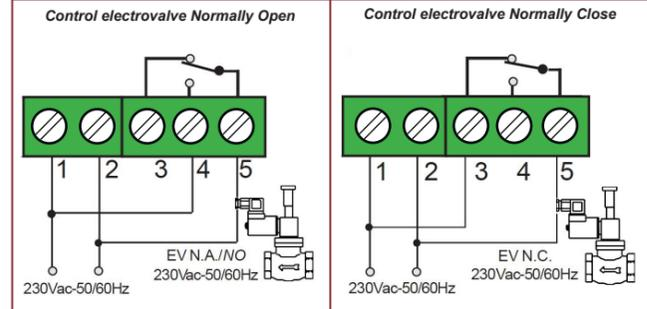

Fig. 10
**Attention:** the electrical connection has to be done with an under track cable. The detectors are power supplied 230Vac-50/60Hz through connecting terminal 1 and 2. The outlet includes a relay with the contacts in exchange free of tension to which it can be connected at the right moment solenoid valves Normally open (N.O.) or Normally closed (N.C.). (Fig.10).